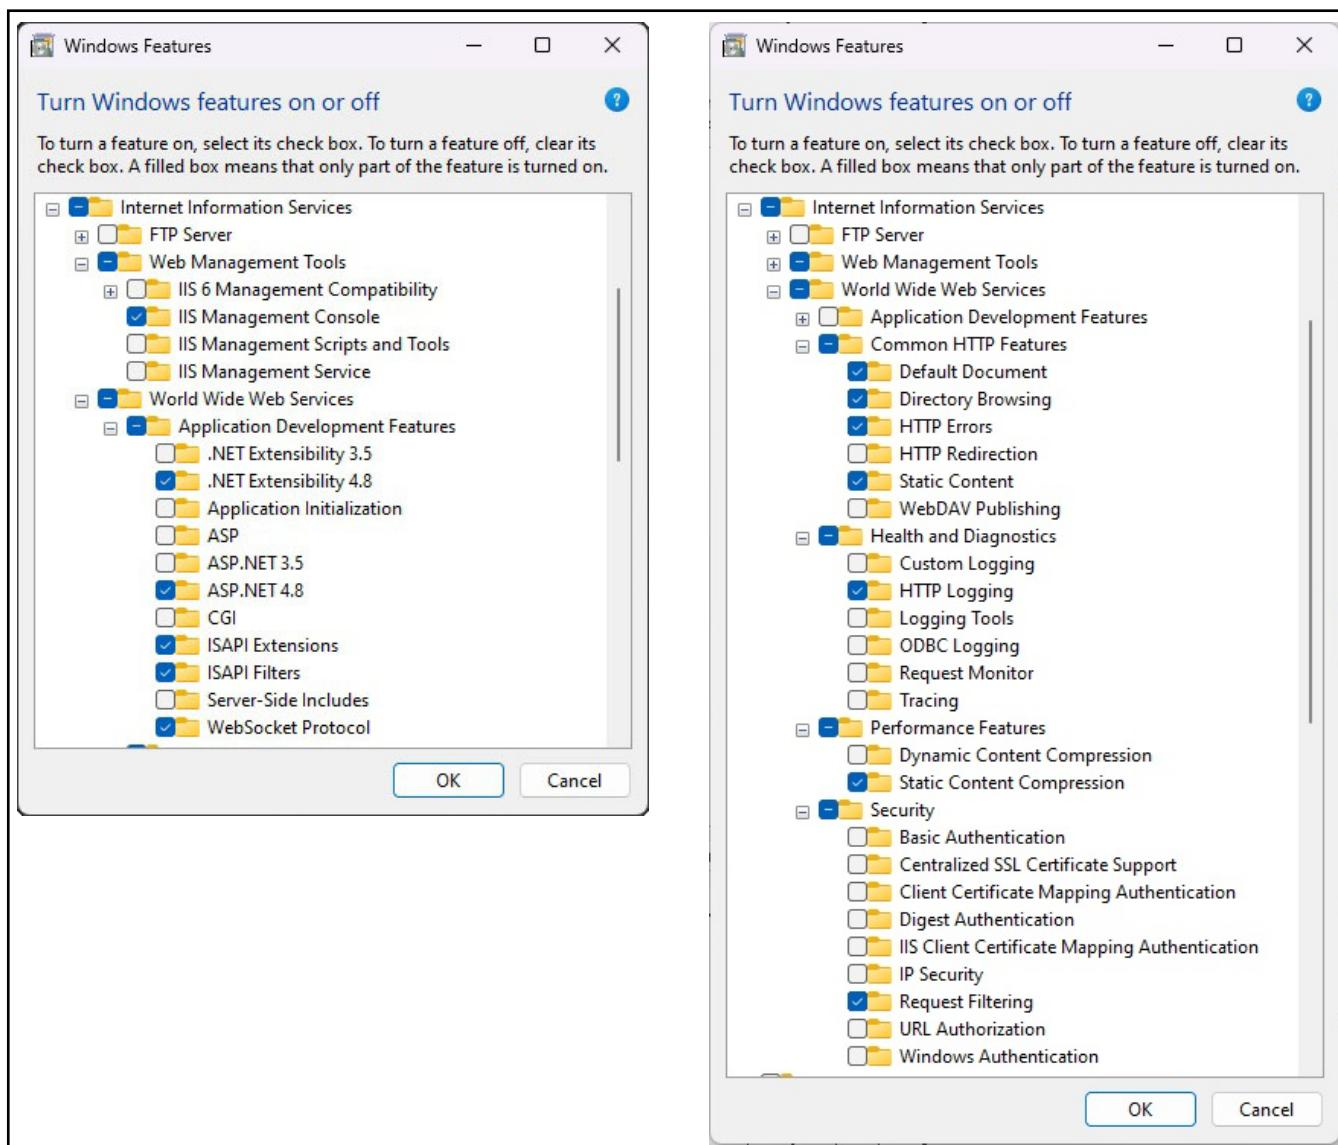

Figure 2-6. Windows Features Configured
B.1 Windows Features window displays (see Figure 2-6 on page 12).
B.2 Expand Internet Information Services tree and enable check boxes as displayed in Figure 2-6.